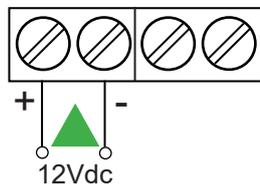

Fig.5
- At 12 Vdc using the terminals "+" and "-" ( Fig.5)